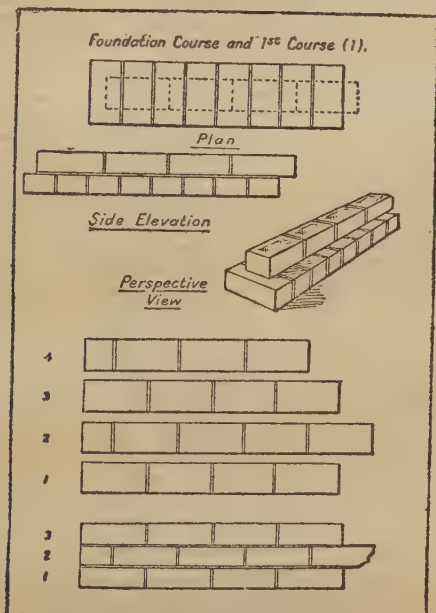
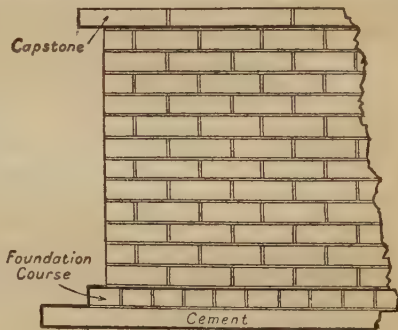
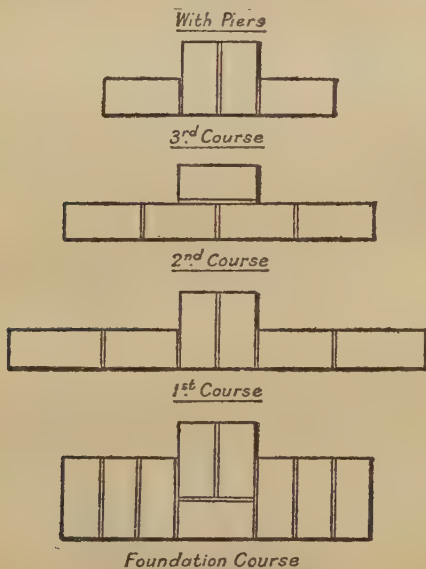

Fig. 2—DWARF WALL
Fig. 3—DWARF WALL
Fig. 4—HALF-BRICK WALL
**Accessories.**—The most important accessories for the wood-turner are chucks for holding the work. A self-centring chuck, although expensive, is well worth the money expended, but is not absolutely essential. A prong chuck, however, is essential and is illustrated in Fig. 2. The worker will note that it is made with a screw end, because the mandrel of the lathe we are describing has a female screw in its nose. The use of the prong chuck will be apparent later. Another essential is the taper-screw chuck shown in Fig. 3. This consists merely of a screw at one end which fits into the mandrel nose, a flange, and a taper screw on which a block of wood may be screwed for turning. Another useful accessory is a chuck-plate, as shown in Fig. 4. A two-jaw chuck, shown in Fig. 5, is intended for holding taper-shank bits; it can be bought very cheaply, and although not quite so useful as a self-centring chuck, can take the place of the latter if expense is a prime factor.
Now screw the prong chuck (Fig. 2) into the mandrel and place the end of the wood having the saw-cut in it against the prong chuck in such a way that the centre,
**Dwarf Wall.**—The foundation course is one brick wide, projecting half a brick outside the actual wall; at the ends also it projects to the same extent (*see* Fig. 2). For a wall of the kind we are building the foundation is a single course high, but in the case of a one-brick or 9-in. wall it would be two courses high. The projection broadens the base and so distributes the load over a wider area. Although such considerations do not matter a great deal in the case of a dwarf wall such as we are erecting, they are vital in walls that support weight or form part of a house, or in higher walls like those that form the boundary of a garden.
An examination of the diagram (Fig. 2) on the first four courses (not counting the foundation course) will show that the bricks are arranged so that one overlaps the joint between the two in the course next below it or above it. This is to "break joint." On the face of the wall, no two vertical joints in adjacent courses come above each other. This overlapping forms the "bond"—in the present case termed stretching bond or chimney bond. A bed of cement is spread on the concrete for the foundation course; it should be sufficient to form a layer  $\frac{1}{4}$  in. thick. On this are laid the bricks for the foundation course, crosswise to the line of the wall. Bricks placed thus are "headers"; those that lie lengthwise in the line of the wall are "stretchers." The foundation course is levelled with a straight-edge and spirit-level, the bricks being tapped down with the handle of the trowel. The straight-edge, placed against the face of the course, is used to align this and succeeding courses, the bricks being tapped back against it as the work goes on.
shown in Fig. 4, and the arrangement of bricks in the pier to form bond.